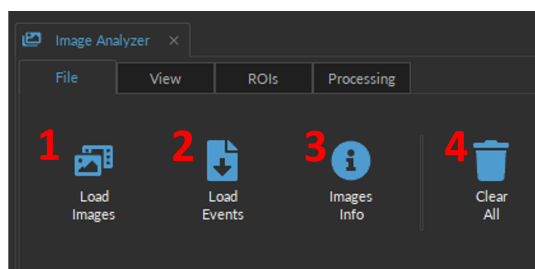

Figure 16.3: File Tab
The **File tab** (Fig. 16.3) is used to load data, obtain information about data, and clear the **Analyzer View**.
1. The **Load Images** button (Fig. 16.3, 1) loads the images. They must be saved in a .doric file format containing images in a square, 16 bits format.
2. The **Load Events** button (Fig. 16.3, 2) displays **Keypress Events** from a .doric file over the signals in **ROIs View**.
3. The **Images Info** (Fig. 16.3, 3) displays a window with information about the images (Width x Height, Bits Count, Timestamp, Sensor ID, LED power, Exposure, and the Gain).
4. The **Clear All** button (Fig. 16.3, 4) closes the **Analyzer View** and the analysis in progress.